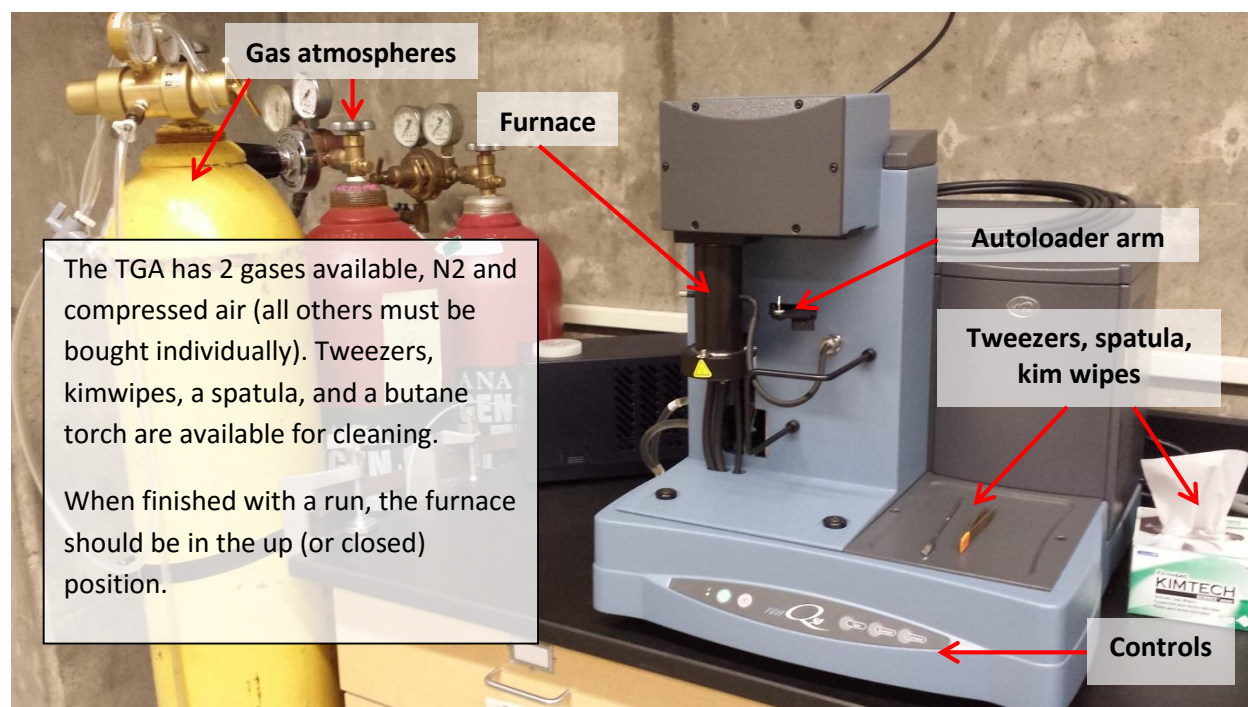

Fig. 1. How the TGA should look at the beginning and end of your use. Gas needs to be turned off, the furnace closed, and the tweezers and spatula present.
2. Check to see that the TGA is in the same condition as in **Fig. 1**. Please let a superuser know if anything is out of place.
16. Open the gas valves (**Fig. 1**). It is important to close the gas when you're done or the gas will run out and be empty for the next user.